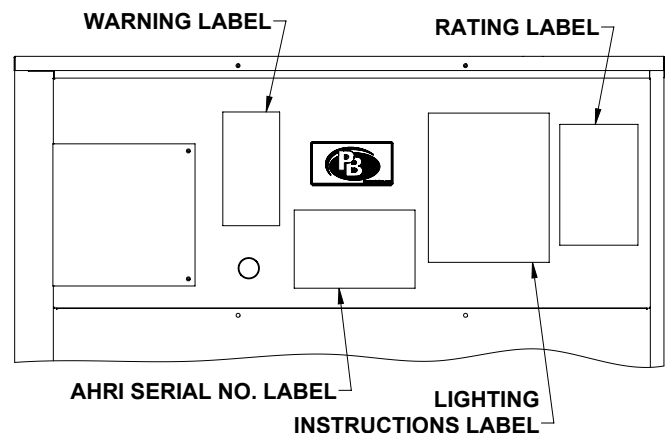

Figure 6.1: Location of Rating, Agency and Instruction Plates on Upper Right End Panel
- Place these plates as shown in Figure 6.1.